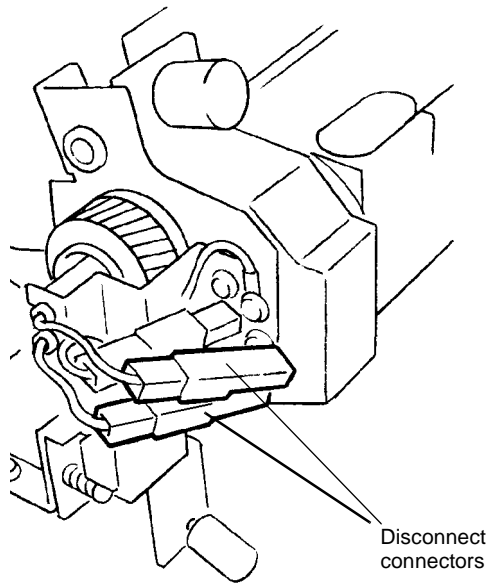

Figure 1 Disconnecting Connectors
3. Disconnect connectors (2) at rear of Fuser (Figure 1).